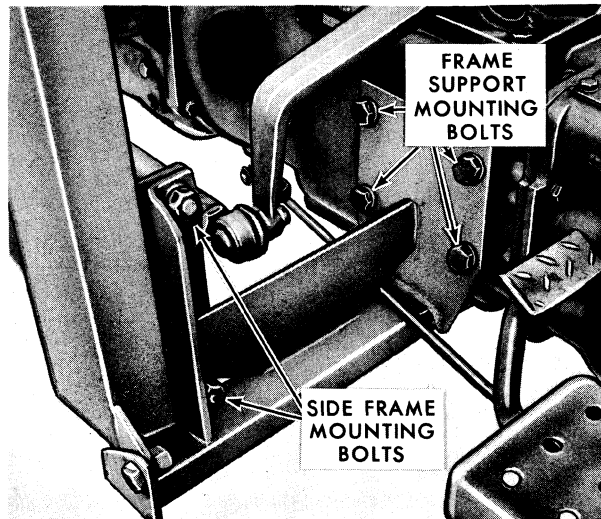

Figure 8
4. The side frame mounting bolts, Figure 8, are then removed on both sides from the frame support.
6. Remove the four frame support mounting bolts, Figure 8, on each side and remove the frame support from under the tractor.